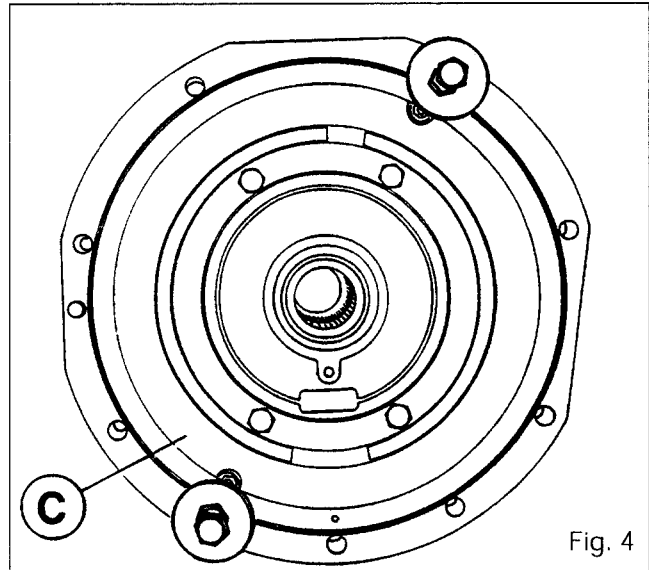

Fig. 4
- the brake disc (19)
- the planetary shaft (23)
- the locating dowel (27)
Note : Prior to serial number E240024, to prevent the brake piston (C) from coming out of the housing, it is recommended that two wide washers and two bolts be fitted diametrically opposite each other to hold it in place. (Fig.4)
17. Remove the brake plate (18).